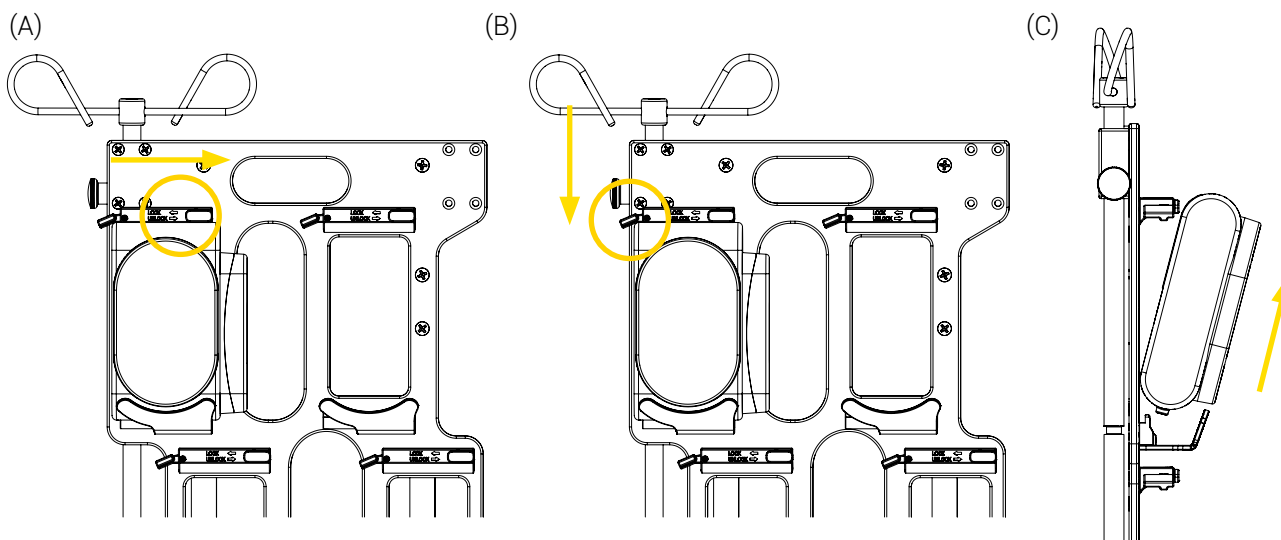

Figure 6: Removing the infusion pump(s)
2. Move the lock/unlock slider button to the right to unlock the pump (Figure 6 A).
3. Press and hold down the quick release lever (Figure 6 B).
4. Grab the pump and tilt it, leaning the pump against the front fold of the holder (Figure 6 C).